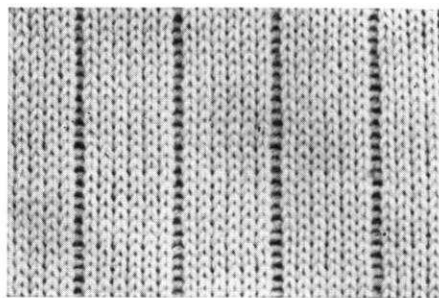

Fig. 26
### No. 2. MOCK RIBBED PATTERN (II), fig. 26